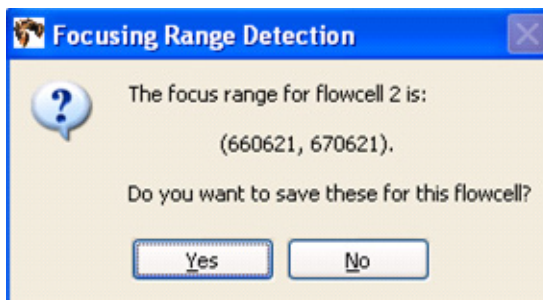

Figure 41 Confirm that you want to replace the local settings file.
5. When the Imager is done, a dialog appears (see Figure 41 on page 45). Click **Yes** if you want to replace the values in the local settings file. Click **No** if you want the Imager to discard the newly calculated focus range.